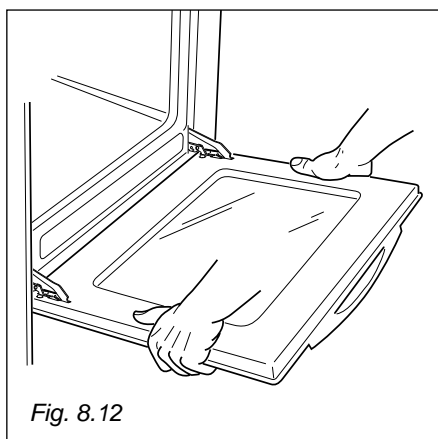
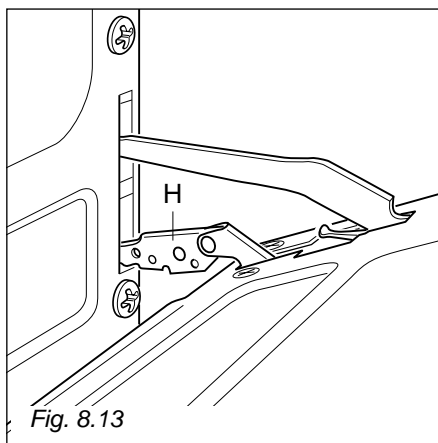

Fig. 8.12
Fig. 8.13
- Grip the door (as indicated in fig. 8.12) and, while closing it, release the two hinges as shown in fig. 8.13.
- Grip the door with your hands placed near the hinges and raise the levers “H” with your forefingers (fig. 8.13)